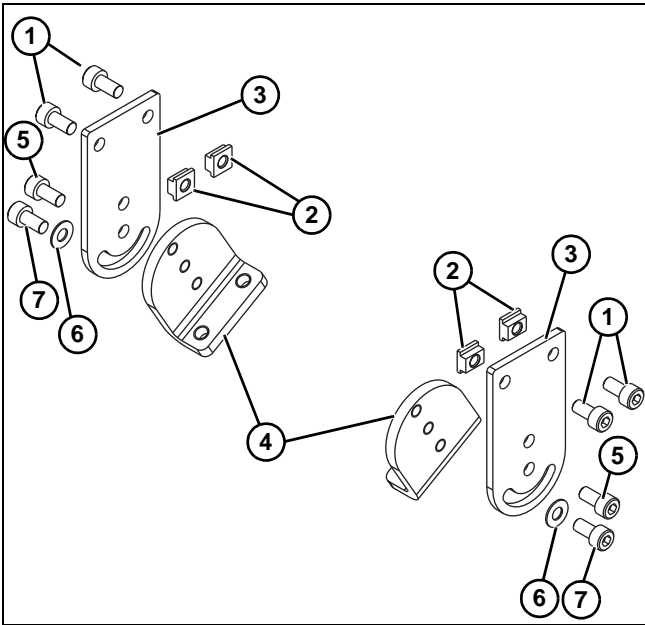

Figure 6
1. Locate pivoting brackets. Exploded view shown in Figure 6.
2. Remove screws (Figure 6, item 1) and T-bars (Figure 6, item 2) from flat mounting brackets (Figure 6, item 3).
3. Install angled mounting brackets (Figure 6, item 4) onto flat mounting brackets (Figure 6, item 3) on top end with screws (Figure 6, item 5). On bottom, install washer (Figure 6, item 6) with screw (Figure 6, item 7).